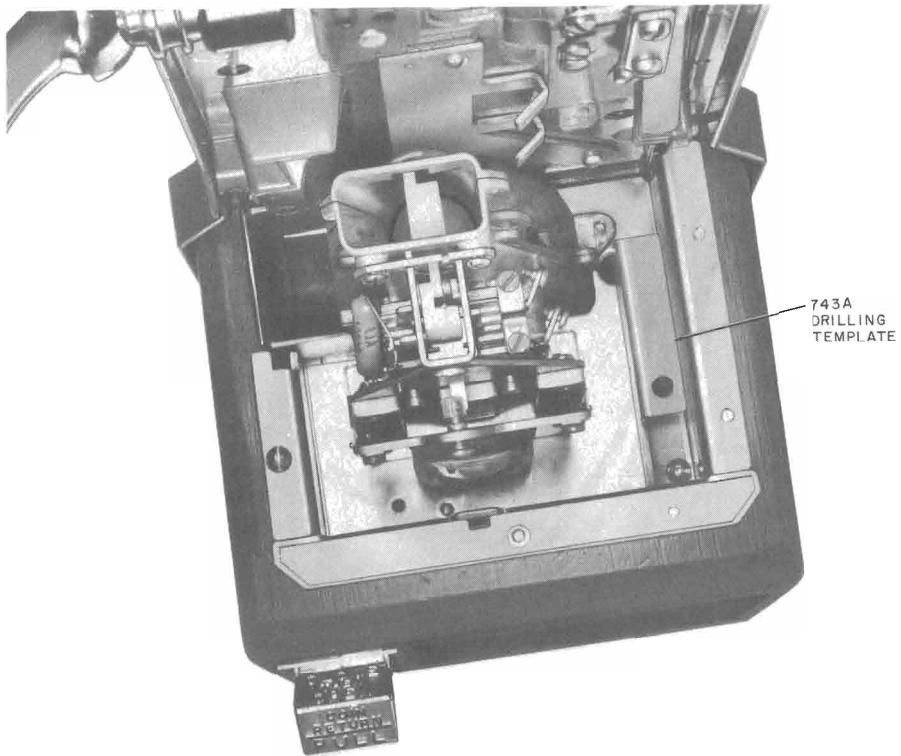

Fig. 6—Installation of Drilling Template
- (1) Remove the RH screw which secures the right front of the 1B rail to the lower housing.
- (2) Install the 743A template against the right side of the base as shown in Fig. 6 and secure it with the screw removed in (1).